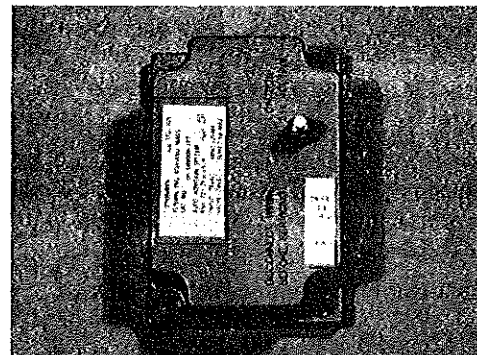

Figure 4
1. The condensate must be removed from the furnace with no less than 1/2 inch CPVC pipe. See Figure 4. DO NOT USE METAL PIPE FOR REMOVAL OF CONDENSATE FROM THE FURNACE.